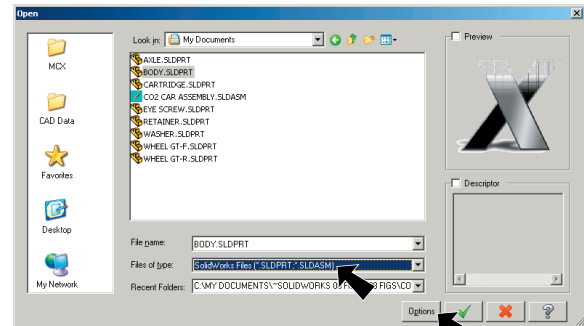

Fig. 1
- Step 3. In the Open dialog box set **Files of type** to **SolidWorks Files**, select your BODY file and click **Options**, **Fig. 1**.